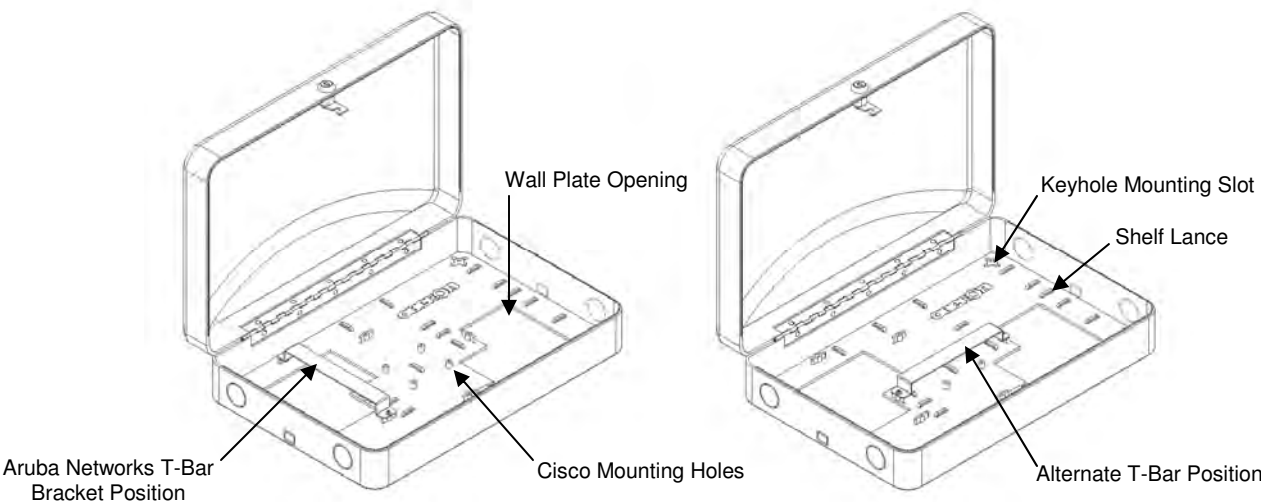
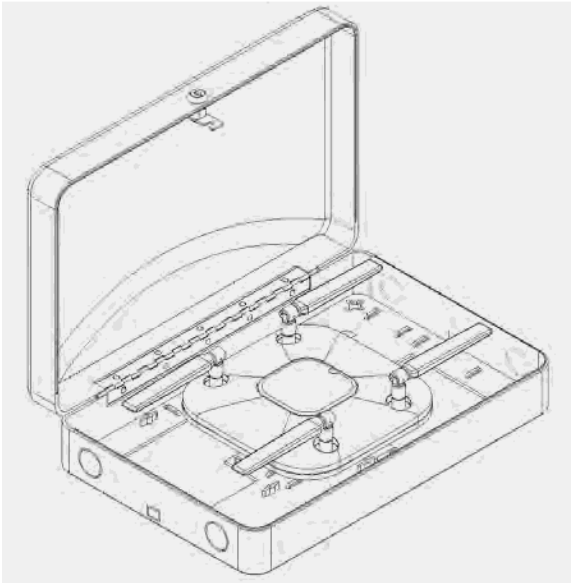

Figure 1 - Model 1016-00 Features
Figure 2 - 1016-00 with Cisco 3600e
Step 1a – (Cisco Access Points Only) Open the enclosure door and remove the T-Bar Bracket. Fasten Cisco's Air Bracket to the designated embosses with the #6-32 screws (Ref. Figure 1). Mount the AP and deploy the antennas (Ref. Figure 2).
Step 1b – (Other Access Points) Attach the access point's mounting plate to the enclosure's T-Bar mounting bracket using the access point's instructions for mounting to a ceiling T-Bar. The T-Bar can be positioned to best meet the orientation of the access point by using the second set of embosses. If using an Aruba Networks Access Point with deployable antennas, fasten the T-Bar Bracket as indicated (Ref. Figure 1).
Step 2 – Mount the enclosure on a wall or hard lid surface using the four (4) keyholes located on the four corners to mount the enclosure to the surface using screws and anchors (not included). The outer keyhole slots are maximum 16" apart to mount easily on studs.
Step 8 – To mount other equipment, attach the shelves inside the cabinet in a pattern to accommodate the networking components to be placed in the cabinet. Place the networking components on the shelves, or fasten to back box (Figure 2). Cut and use the Velcro straps to secure the networking components. Wireless routers should be positioned as recommended by the manufacturer. "Desktop" styles can be placed on the shelf. "Wall mount" units may be attached to the back box. Do not block the wireless router with other components or cables.